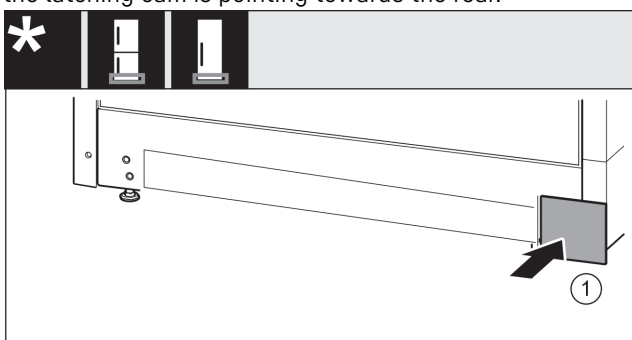

Fig. 18
- Re-attach the cover Fig. 18 (1) to the other side.